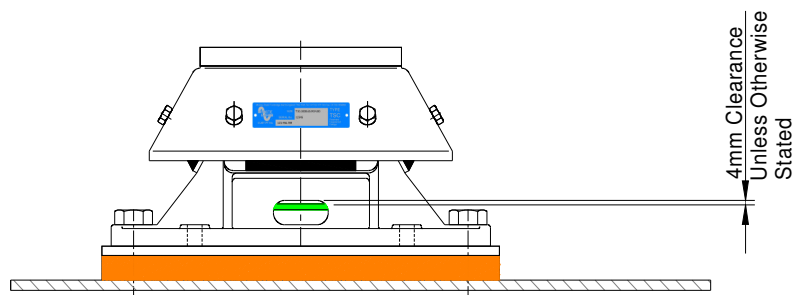

Figure 8
20. Adjust the centre bolt in the mount top so that the clearance above the combined overload and rebound washer is as advised by Christie and Grey installation drawing (usually 4mm). Tighten the lock nut on the centre bolt to a torque of 200Nm to 220 Nm (147.5 lb-ft to 162.3 lb-ft) See Figure 8 below.